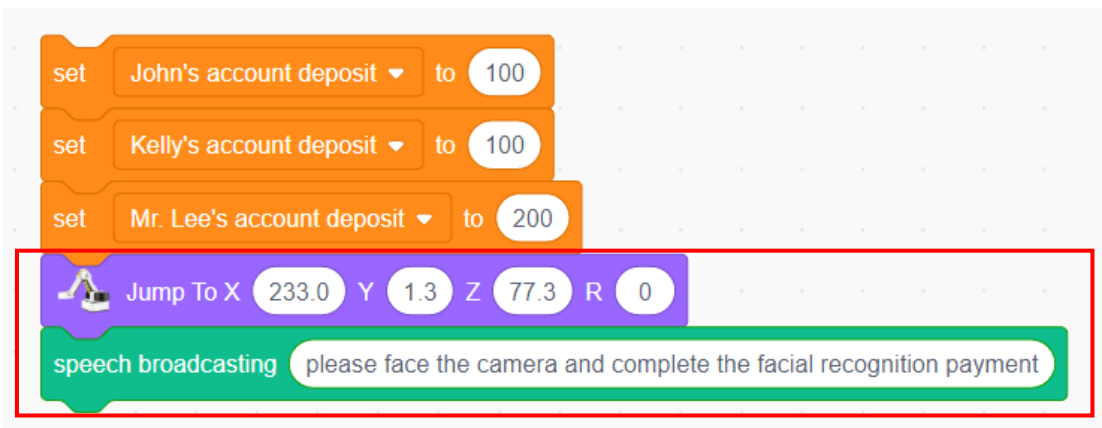

Figure 5.22 Position for photo taking
Step 4: Set the position of the camera of the robotic arm, and prompt the diner to "please face the camera and complete the facial recognition payment", as shown in Figure 5.22.